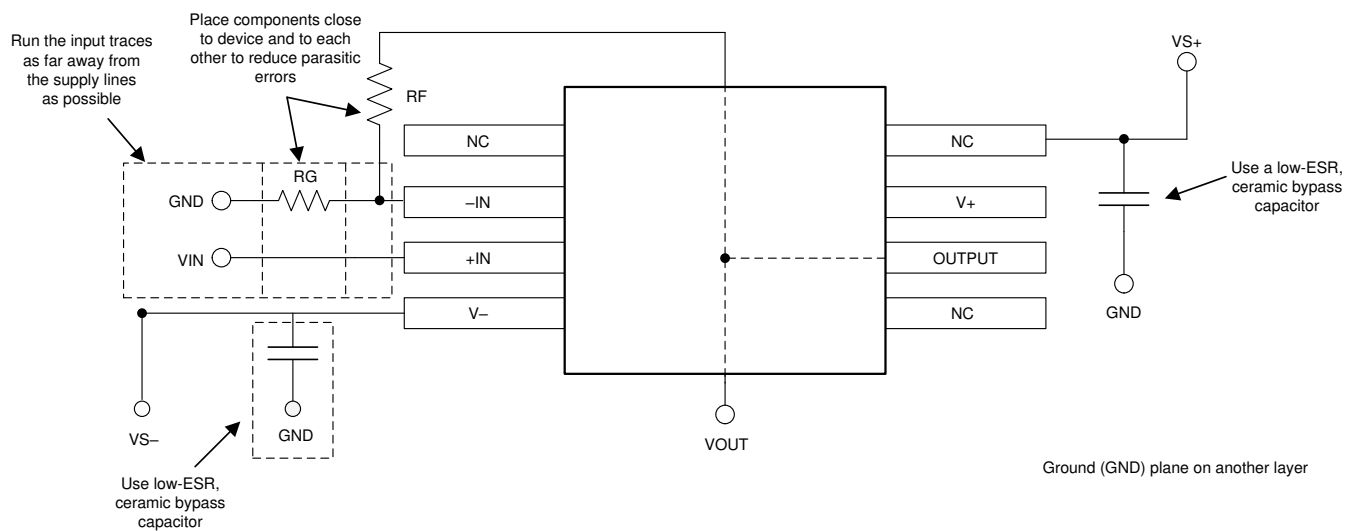

Figure 7-7. Operational Amplifier Board Layout for Noninverting Configuration
- Place the external components as close to the device as possible. As illustrated in Figure 7-7, keeping RF and RG close to the inverting input minimizes parasitic capacitance.